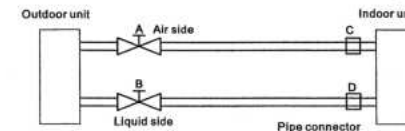

Fig 19
■ If the connection pipe is no more than 5 meters, use refrigerant in outdoor unit to exhaust the air(50-100 g refrigerant is charged for emptying the pipe before the outdoor unit is delivered, refer to Fig 19).
- ① Screw down the nuts at A, B, C, D joint completely.
- ② Turn on the nut of the Valve B with the hexagon wrench and then turn the valve core 45° anti-clockwisely for 10 seconds with the inner-hexagon wrench, then tighten the union A.
- ③ Have the leak test at A, B, C, D joint and then press the core of Valve A to exhaust the air for 20 seconds and then screw down the service valve.
- ④ Open Check valve B and A completely with the inner-hexagon wrench, then tighten nuts of them.